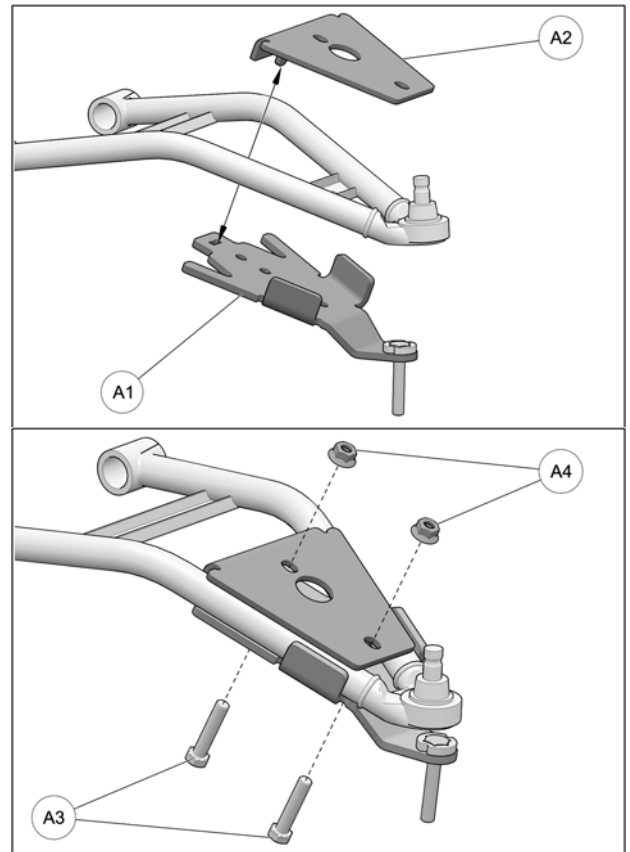

Fig. 10
5. Position bottom part of anchor bracket (A1) assembly under front lower suspension arm, as shown in the figure below. Position bracket cover (A2) over suspension arm and align holes in cover and bottom part. Insert M10x50mm bolts (A3) from the bottom and secure the two parts together with the nuts (A4) provided. Tighten assembly to 50 N•m [37 lb•ft] of torque. Refer to Fig. 10